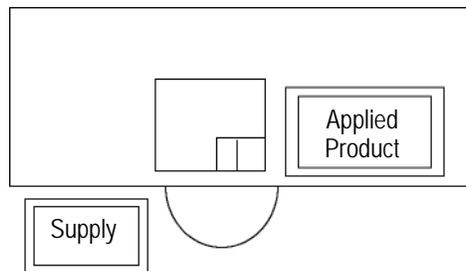

Figure 10
The location of the machine in relation to the operator's position is extremely important in terms of both safety and maximum efficiency. Studies have repeatedly shown that operator fatigue will be reduced, and greater efficiency achieved, if: (1) the bench is of appropriate height, preferably with sound-deadening rubber mounts; (2) the machine is properly located on the bench with ample work areas on both sides to facilitate work flow; (3) the operator uses a swivel chair with padded seat and back rest which are independently adjustable; and (4) the foot switch, on machines so equipped, is placed on a rubber mat to maintain its movability, while preventing it from sliding unintentionally. Figure 9 illustrates proper machine location and operator position. Figure 10 illustrates